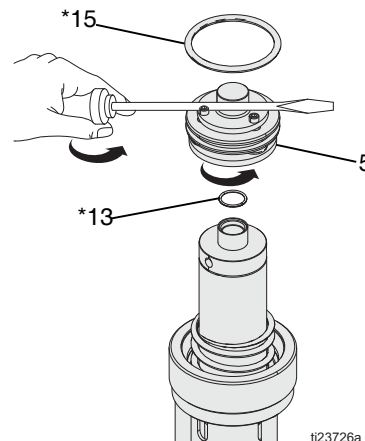

FIG. 12 Series B Air Valve
4. **Series B (and later Air Motors):** Unscrew air valve (5). If necessary to assist turning, wedge a screwdriver blade between the screw heads and the hex cap of the air valve (5). Inspect o-rings (13* and 15*) for damage and replace if necessary. Ensure o-ring (13*) is correctly positioned and not pinched. See FIG. 12.
NOTE: See **Repair the Air Motor**, page 15, step 4 and step 5 (FIG. 12) for special notes on reassembly.